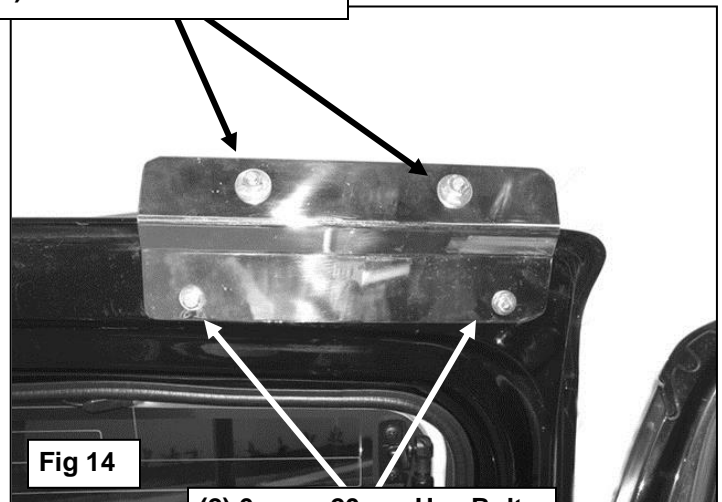

Fig 14
14. Bolt the top of the Ladder and Top Bracket to the top of the door with (2) 6mm x 20mm Hex Bolts, (2) 6mm Lock Washers, and (2) 6mm Flat Washers, (**Figure 14**). Reattach the Ladder to the Bottom Bracket and tighten all hardware. Slowly close door to check for clearance.